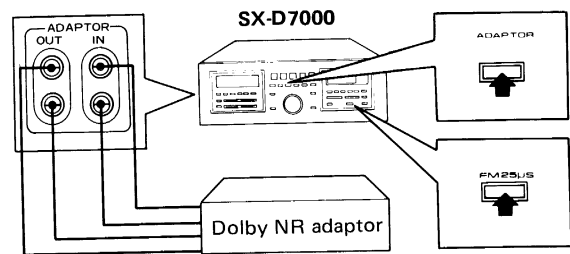

Fig. 13
If you live in an area where you can receive FM Dolby broadcasts, you can listen it if you connect an optional Dolby NR adaptor to the ADAPTOR jacks (OUT, IN), as shown in Fig. 13.
1. Connect the Dolby NR adaptor to the ADAPTOR jacks (OUT, IN), as shown in Fig. 13.